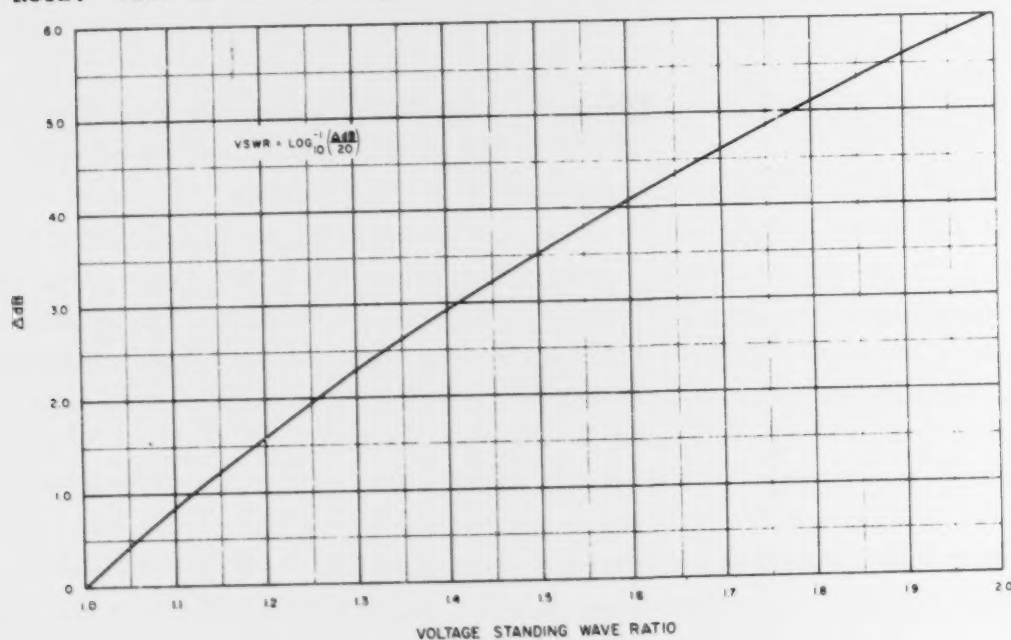

Figure 7. dB-VSWR Conversion Chart
5. Slide the carriage along the line to locate a point of minimum reading. Note the meter reading (dBm) at this point, then subtract this minimum reading from the maximum reading. Convert the resultant Δ dB into vswr either by the use of the vswr Conversion Curve (Figure 7) or by computation.